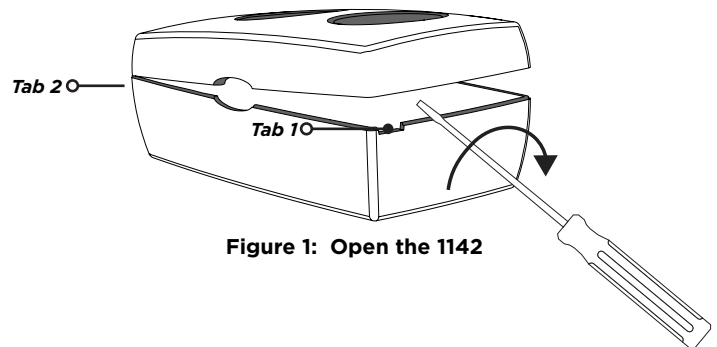

Figure 1: Open the 1142
3. Align the top housing and LED cut-out with the base housing and LED cut-out and snap into place. See Figure 1.